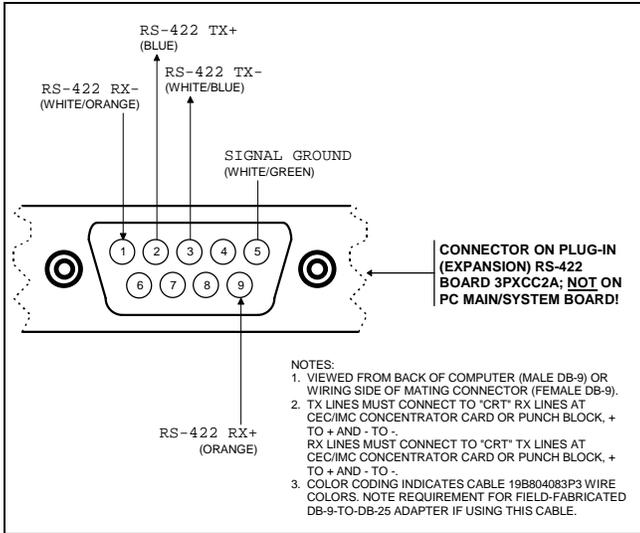

Figure 5 – Plug-In RS-422 Board DB-9 Connector Pin-Out (B&B Electronics 3PXCC2A Board)
- *** If PC is equipped with plug-in RS-422 board 3PXCC2A, see Figure 5 for DB-9 connector pin numbers.